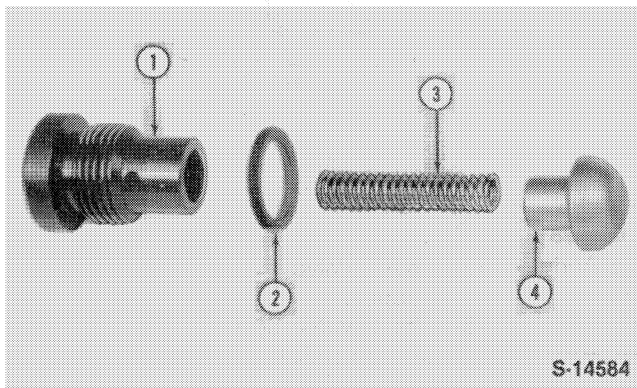

Figure 8
Check valves (15) are located in both high pressure passages of the control valve, Figure 6. When a hydraulic cylinder is under load and a valve spool is moved to actuate the cylinder, there would be a momentary tendency for oil to flow in the opposite direction. The check valves keep the circuits closed until there is sufficient flow and pressure to overcome the load in the cylinders. Figure 8 is an exploded view of the check valve components.